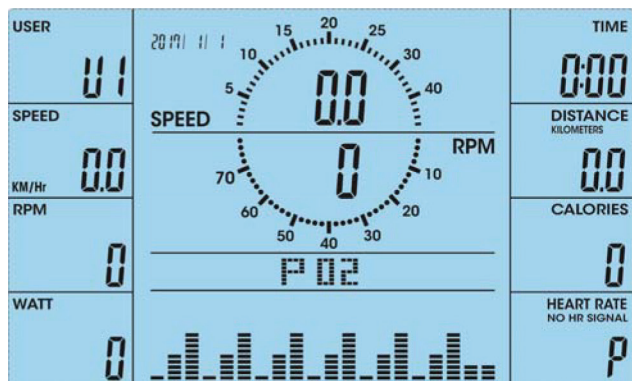

Fig. 20
2. Press START/STOP to start the training (fig. 20). The resistance can be adjusted during the training.